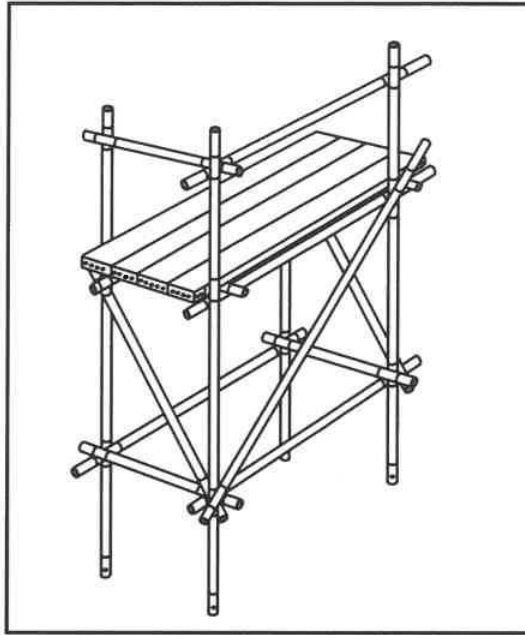

FIGURE 1.1
- 1.1 FIGURE 1.1 below shows a temporary platform that is currently not suitable for use in the building environment.
- 1.1.2 Predict what could happen if the platform is used as shown in FIGURE 1.1. (2)